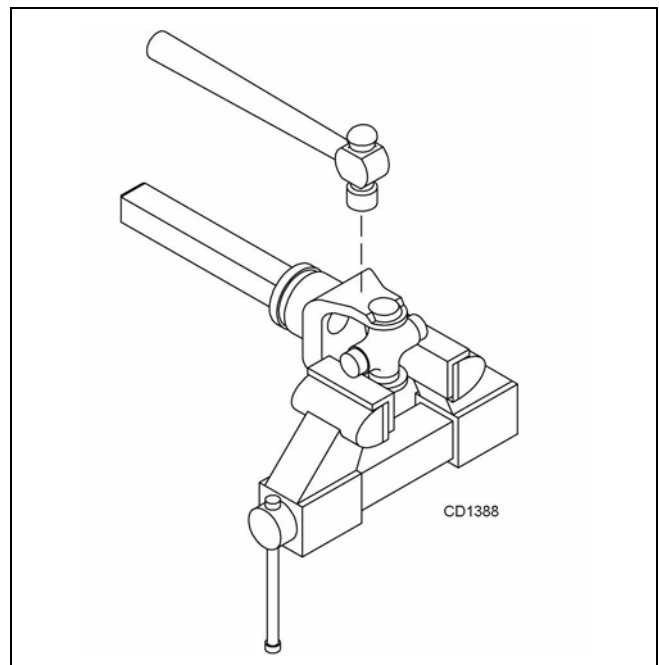

Figure 20. Remove Cups
4. Place universal cross in vise as shown in Figure 20 and tap on yoke to remove cup. Repeat Step 3 for final removal. Drive remaining cup out with a drift and hammer.